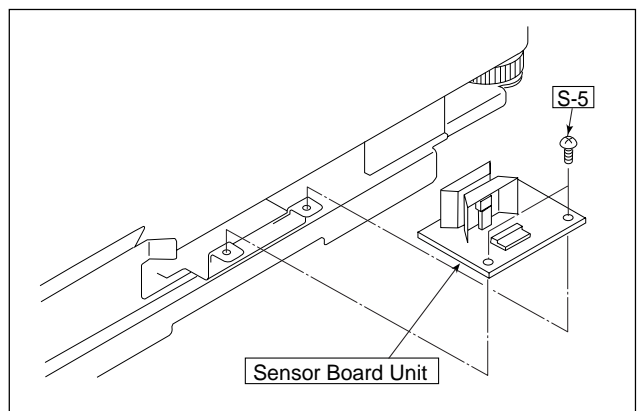

Fig. 12
9) Remove the Sensor Board Unit. (See Fig. 12.)
1. Remove the "S-5" screws shown in Fig.12 and remove the Sensor Board Unit.